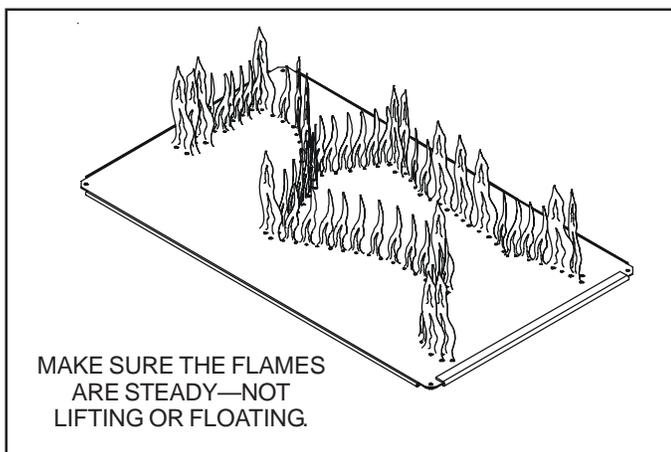
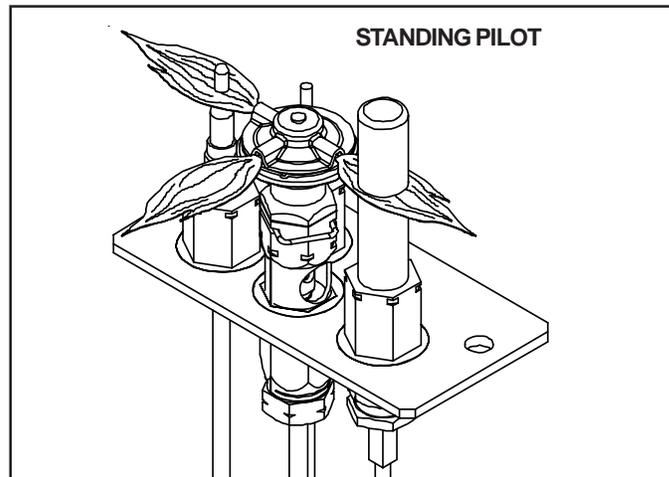

Figure 35. Burner Flame Patterns
Figure 36. Pilot Flame Patterns
**Task:** Make a visual check of your stove's flame patterns. Make sure the flames are steady - not lifting or floating. See Figure 35. The thermopile/thermocouple tips should be covered with flame. See Figure 36.